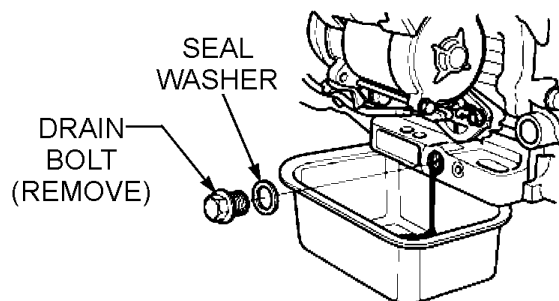

Figure 30. Draining Engine Oil
- Drain the engine oil into a suitable container when the oil is warm as shown in Figure 30.